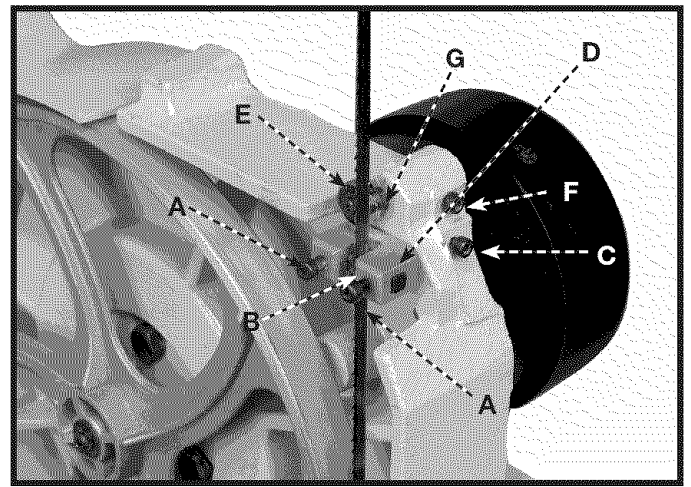
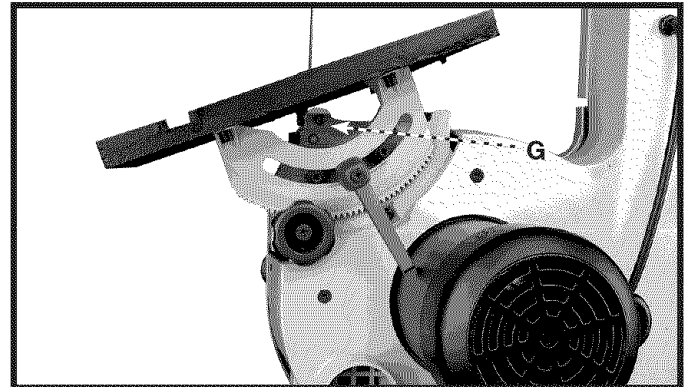

Fig. 29
Fig. 30
1. Loosen two screws (A) Fig. 29, and move guides (B) as close as possible to the sides of the blade. Be careful not to pinch the blade. Tighten the two screws (A). **NOTE:** In Fig. 29, the table has been removed for clarity.
2. The front edge of the blade guides (B) Fig. 29 should be adjusted so they are just behind the "gullets" of the blade teeth. Loosen screw (C), and move the assembly (D) in or out as necessary. Tighten screw (C).
3. The lower blade support thrust bearing (E) Fig. 29 prevents the saw blade from being pushed back too far during cutting. The support bearing should be adjusted approximately 1/32" behind the blade. Loosen screw (F) Fig. 29, and move the bearing shaft (G) in or out as necessary. Tighten screw (F).
4. The lower blade support bearing (E) Fig. 29 should also be adjusted so that the blade overlaps the outside diameter of the ball bearing by approximately 1/8". The blade support bearing (E) is set on an eccentric shaft. To change the position of the bearing (E), loosen the screw (F) Fig. 29 and rotate the shaft (G) Fig. 30 until the blade properly overlaps the support bearing. Tighten screw (F) Fig. 29.